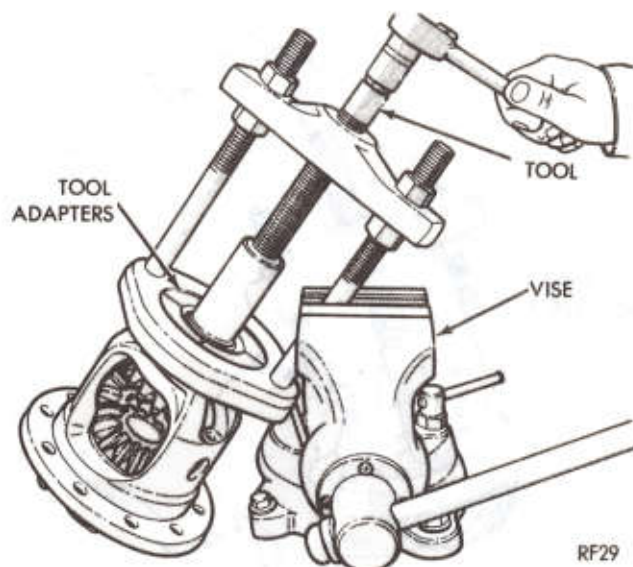

Fig. 18—Removing Differential Bearing Cone
(27) Rotate differential side gears until differential pinions appear at differential case window opening and remove.
(28) Remove differential side gears and thrust washers.
(29) Remove differential bearing cones. On 8-3/8 inch axles use Tool C-293-PA and adapters C-293-48 with SP-3289 plug. On 9-1/4 inch axles use Tool C-293-PA and adapters C-293-47 with C-293-3 plug (Fig. 18).